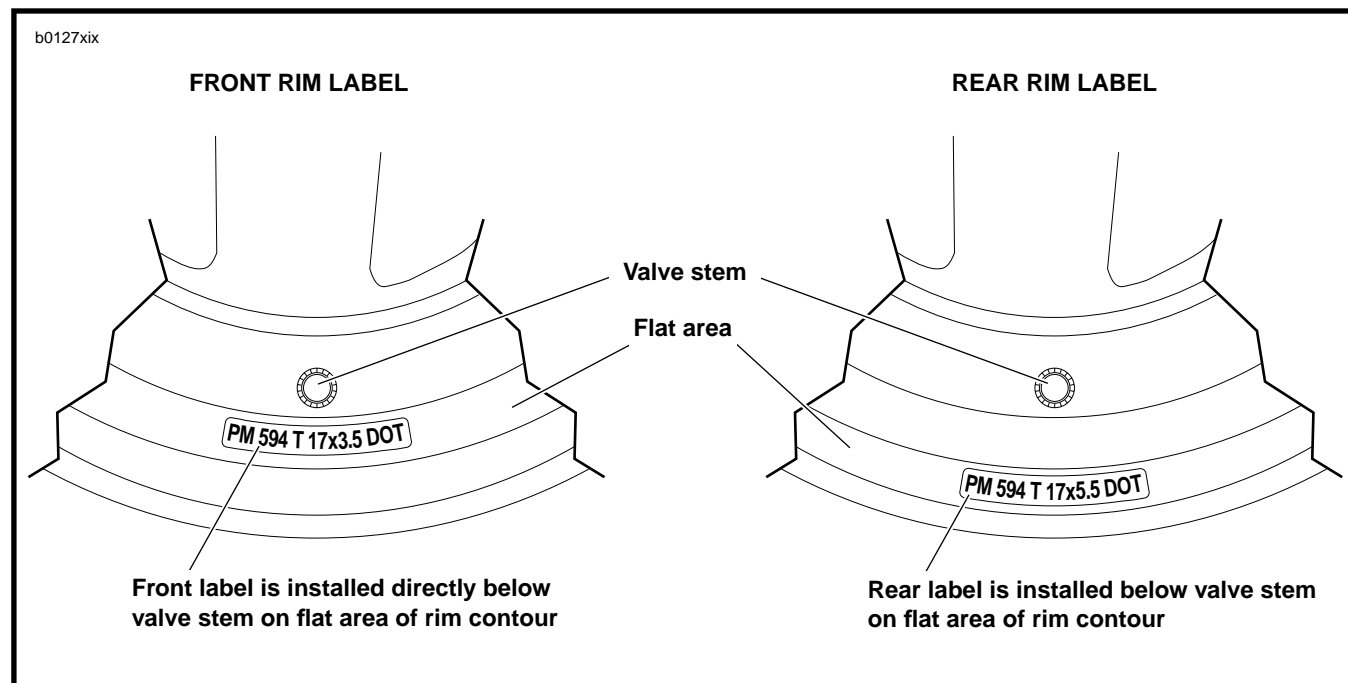

Figure 2. Label Placement
1. Clean rim surface at locations shown in Figure 2.